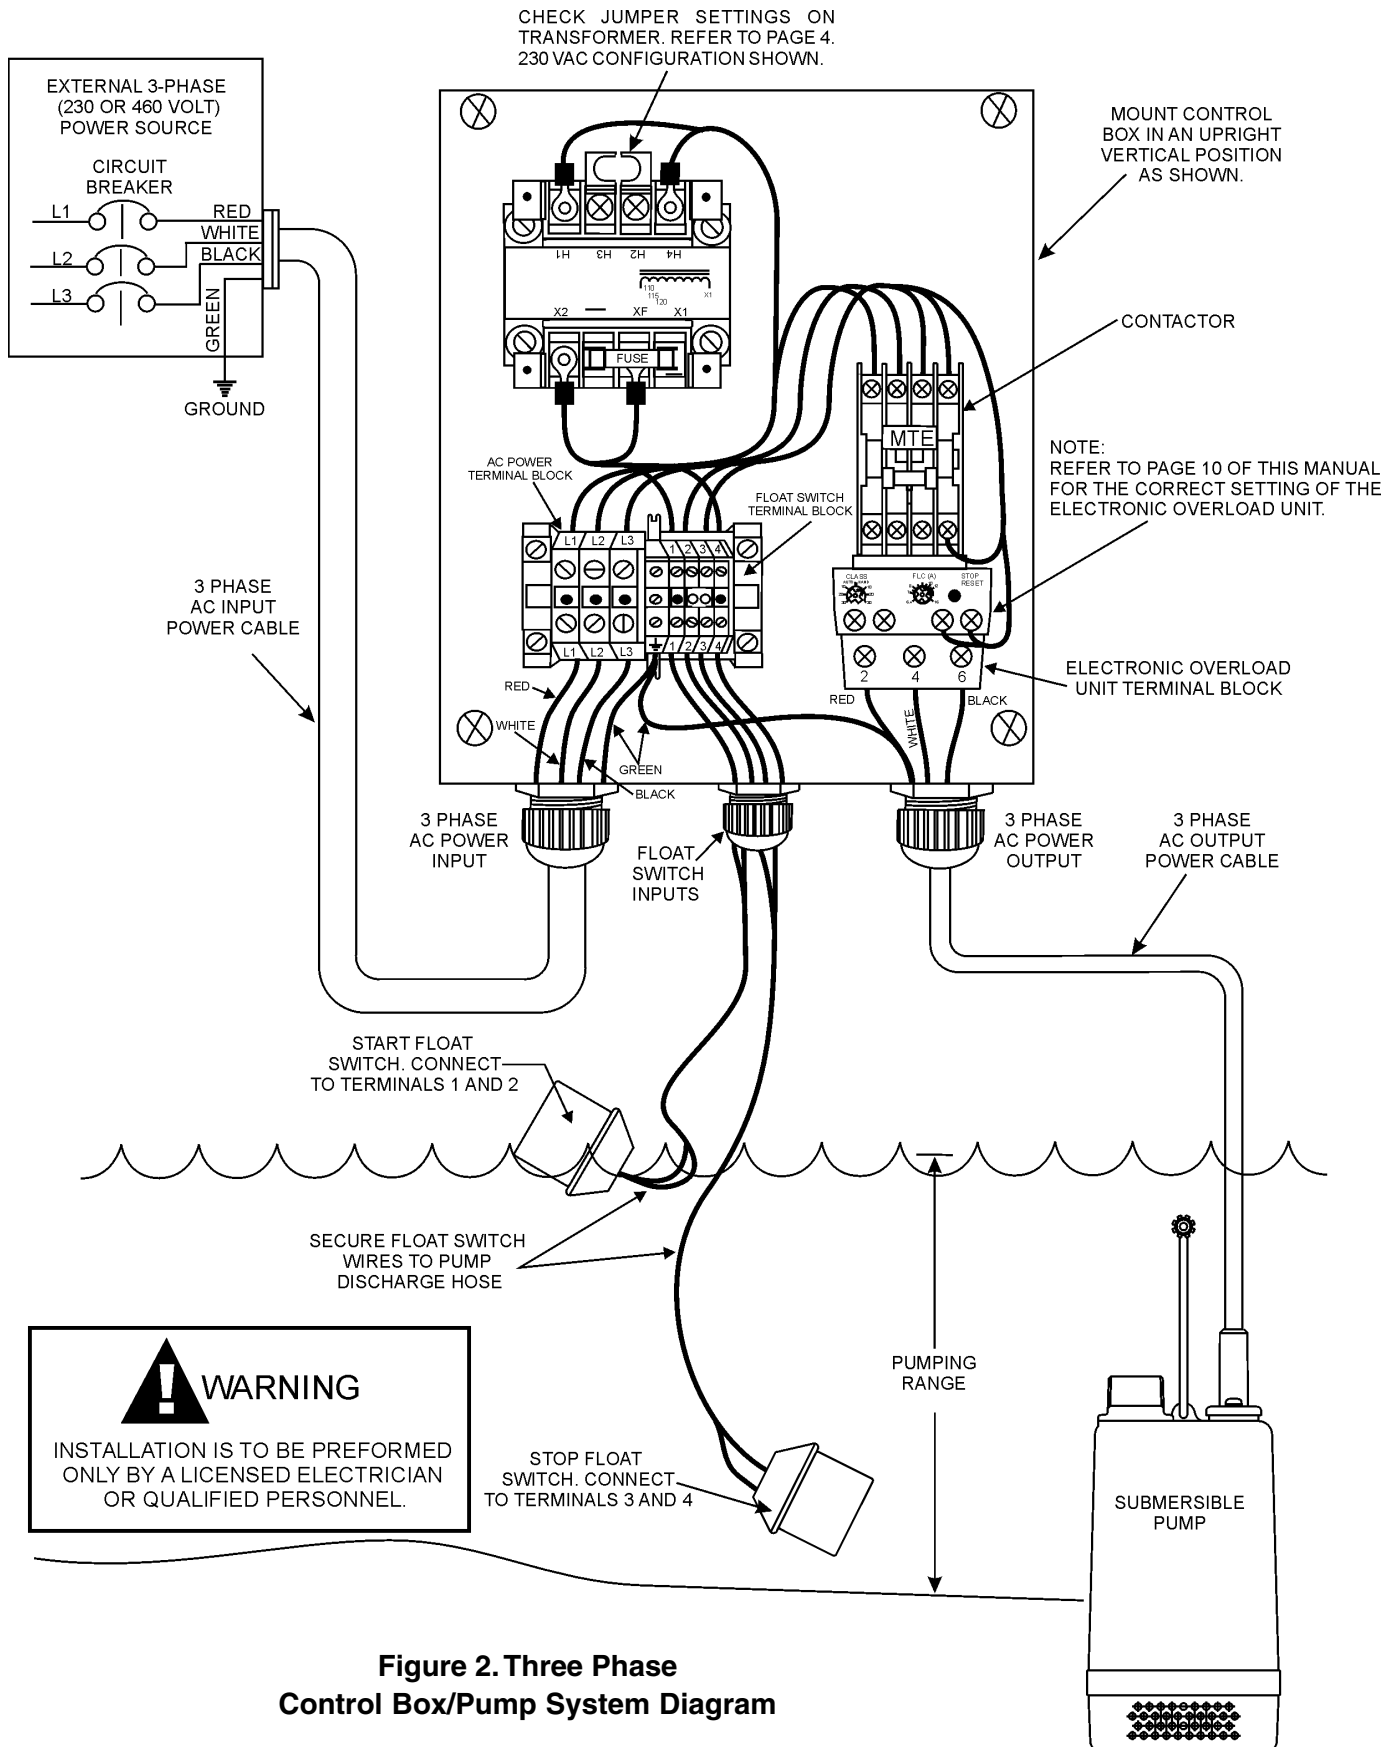

Figure 2. Three Phase Control Box/Pump System Diagram
1. Remove the float switch input connector housing, then route the float switch wires through the cable gland on the control box. Attach the wires to the float switch terminal block as indicated by Table 2. Reference Figures 2 and 3.
2. Remove the 3-phase AC input connector housing from the control box, then route the three phase input power cable through the cable gland on the control box. Attach the wires to the AC terminal block inside the control box as indicated by Table 3 and Figure 2.
2. Remove the 3-phase AC output power connector housing on the control box, then route the three phase output power cable through the cable gland on the control box. Attach the wires to the AC terminal blocks on the **electronic overload** unit as indicated by Table 4 and Figure 2.